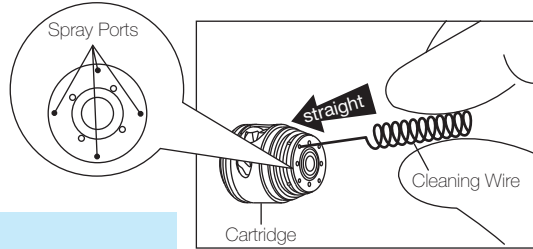

Fig. 9
- Insert the Cleaning Wire straight into the Spray Port. (Fig. 9.)